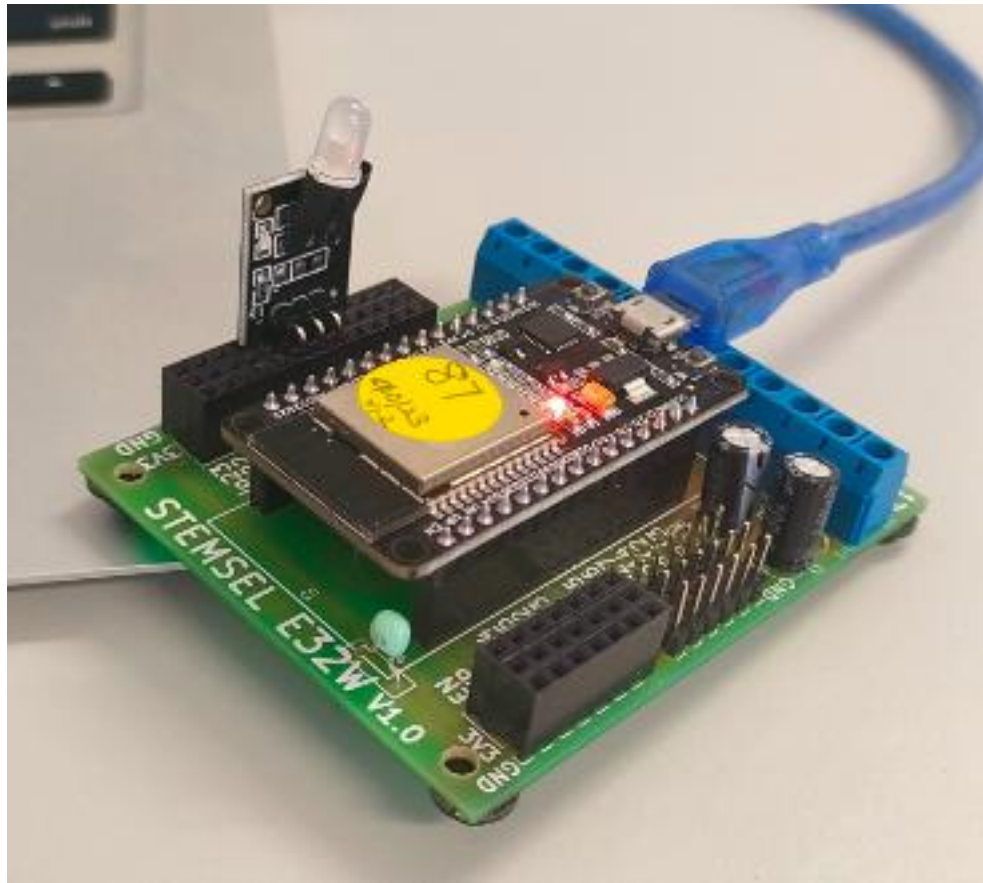

Figure 5: Circuit board connection with I/O part (side view)
- b.) Please refer to **Figure 5** for more detail.